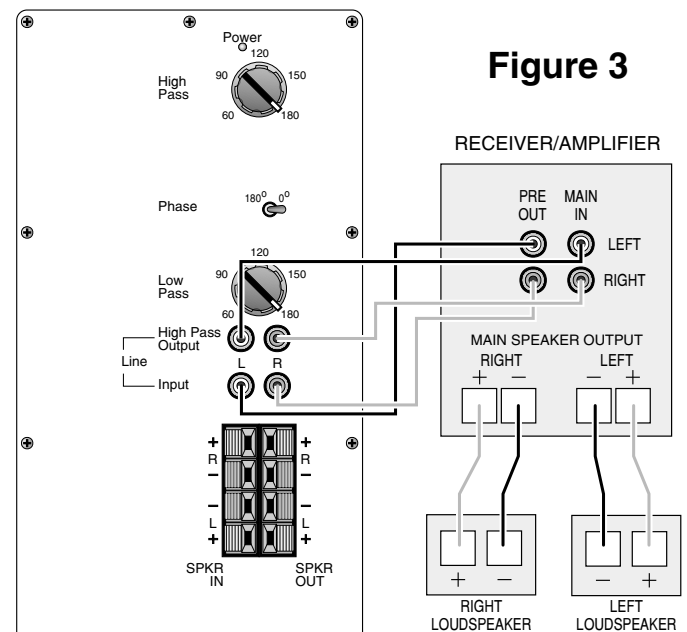

Figure 3
• This control is only active if you are using the hook-up method described in detail on page 8, Figure 3. The High-Pass control determines the frequency at which the main speakers will start reproducing sounds. If your main speakers can comfortably reproduce some low-frequency sounds, also set this control to a lower frequency setting, between 50Hz – 100Hz. This will concentrate the subwoofer's efforts to the ultradeep bass sounds, while your main speakers continue to reproduce the mid-bass information. If you are using smaller bookshelf speakers that do not extend to the lower bass frequencies, set the high-pass crossover control to a higher setting, between 125Hz – 180Hz. With this setting, your main speakers will not have the burden of reproducing any low-frequency sounds.
3) If your receiver/amplifier has preamp output jacks and main input jacks for the left and right channels or you have a separate pre-amp/ processor and power amplifier. See Figure 3.